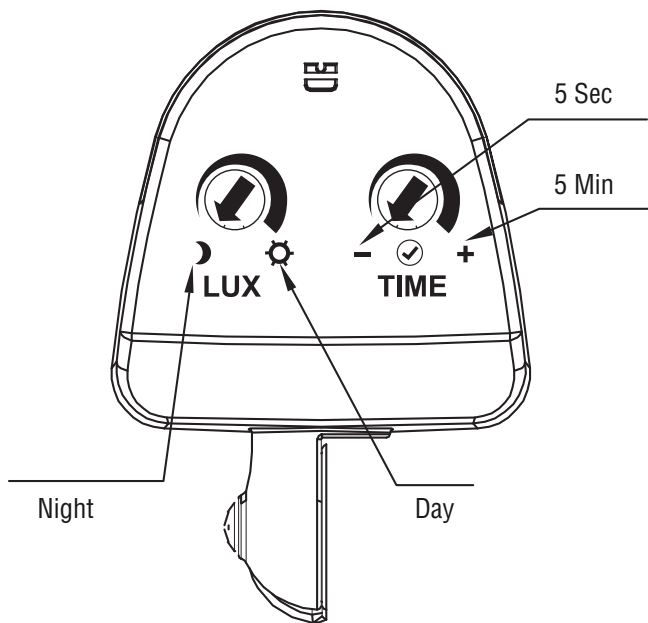

FIGURE 2
1. Set the two adjustment controls on the bottom of the sensor (see **Figure 2**) to the following positions: